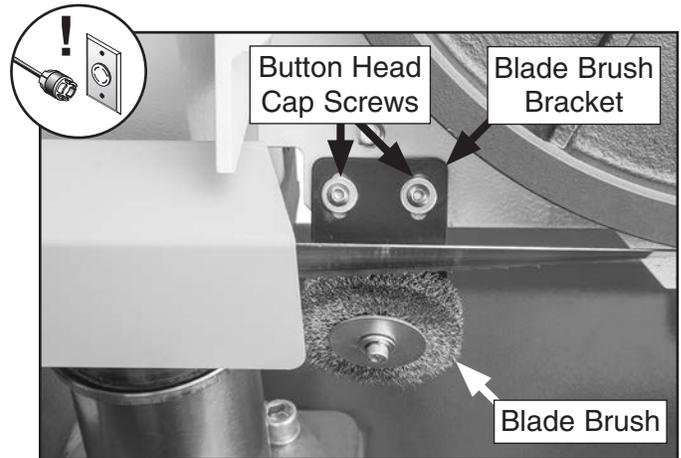

Figure 80. Blade brush and components.
- Loosen button head cap screws on blade brush bracket (see **Figure 80**).